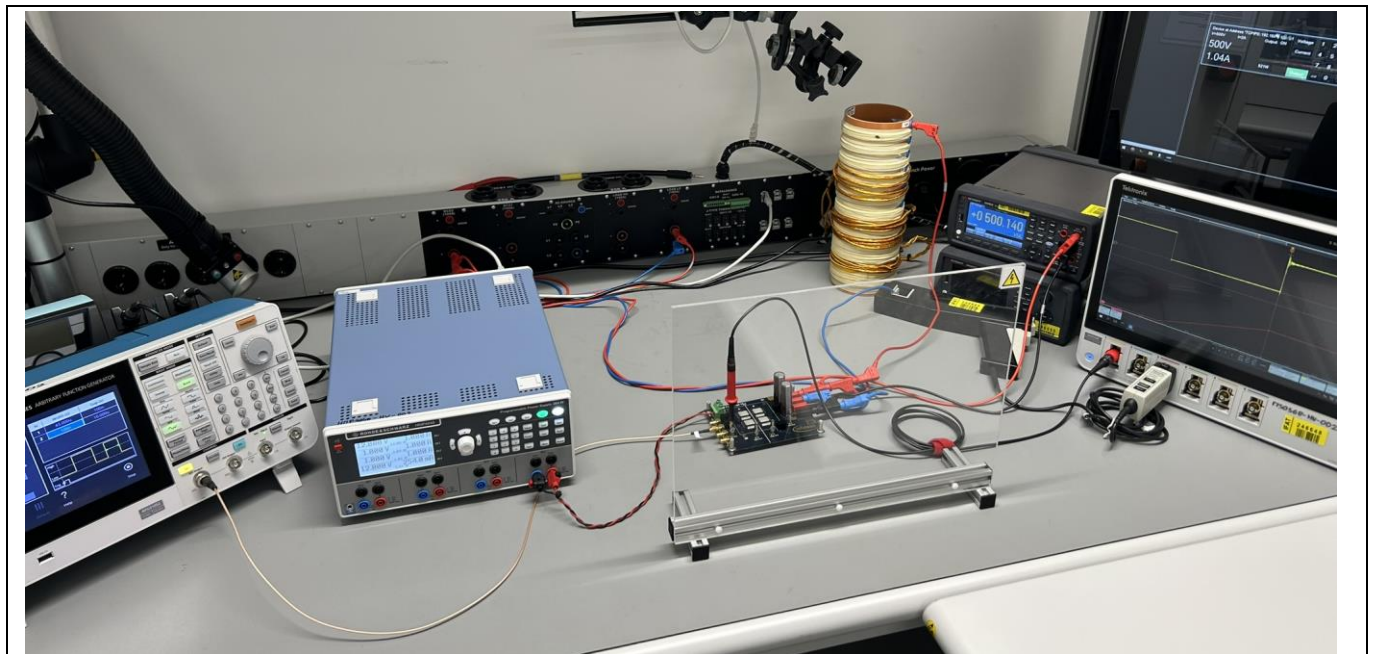

Figure 11 Lab setup for double-pulse testing while measuring the drain-to-source voltage (V_{DS}) via the corresponding probe holder
- A power inductor (see Figure 11)